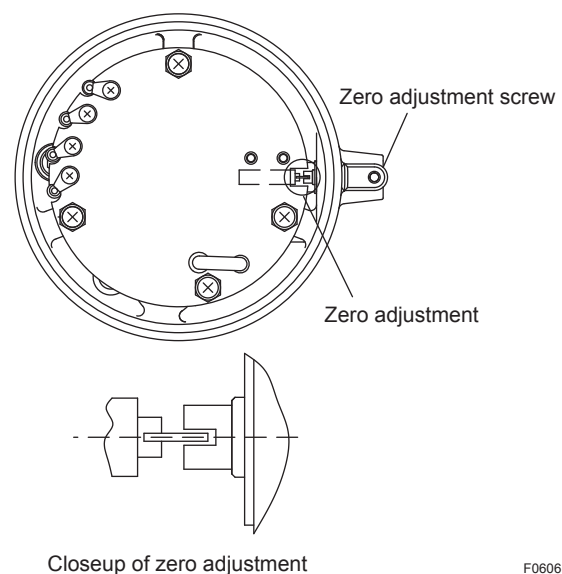

Figure 6.6 Zero Adjustment
- (1) Turn off the power and set the air supply pressure to zero.
- (2) Turn the amplifier cover counterclockwise to remove it.
- (3) Adjust the zero adjustment control to the position indicated in Figure 6.6.